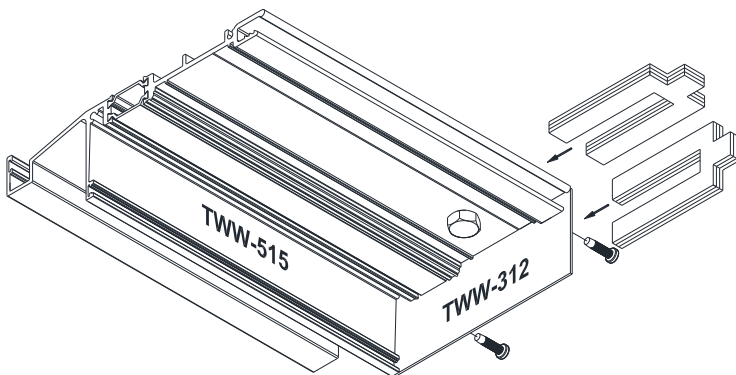

Figure 65: Head Receptor Installation
- 18.1 Attach the **TWW-313** End Dam with (2) **FS-320** fasteners. Center the assembled Head Receptor into the opening, allowing shim space at jambs. Shim to level with 1/4" of shim at highpoint, adding shims at each fastener, reference *Figure 65*.